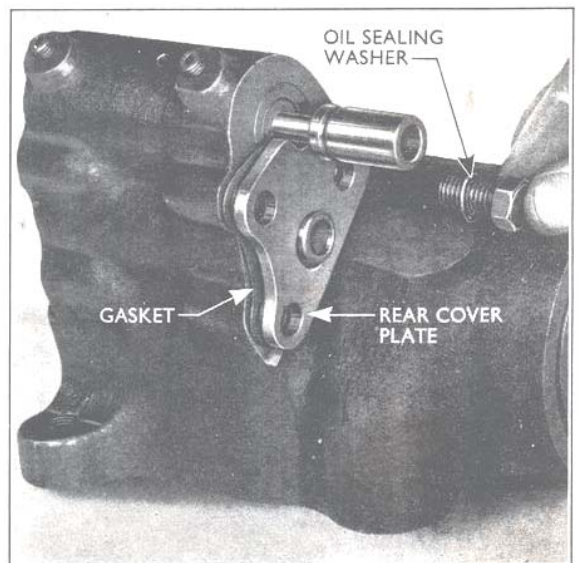

Fig. 20
6. Remove the three set-screws securing the rear cover plate to the lift cylinder and remove the plate and gasket. It should be noted that a copper sealing washer is fitted under the head of the screw located between the control valve and the lift cylinder. (See Fig. 20). This particular screw fits into the threaded end of a longitudinal passage through which oil is exhausted from the ram cylinder. (Also in communication with this passage is a small vertical drilling located close to the rear blanking plug at the bottom of the cylinder.)
NOTE.—Remember that the set-screw located between the control valve and the ram cylinder fits into the end of a longitudinal exhaust passage in the cylinder. A copper sealing washer must therefore be fitted under the head of this particular screw to obviate oil leaks from the passage. (See Fig. 20.)